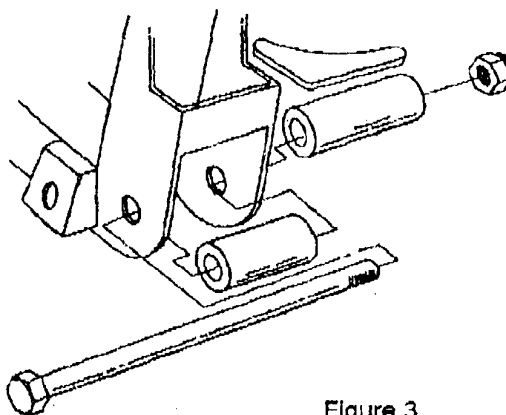

Figure 3
4. If you purchased a complete I.F.S. Package from [REDACTED] it was supplied with Full Lower A-Arms. Begin by installing the Spacers onto the crossmember. The holes where the lower control arms attach to the Crossmember must be enlarged to 5/8". Install the Crossmember Spacers and the Rear Spacers which were supplied with the Lower Control Arms onto the Crossmember as shown in Figure 3 using the supplied Inner Bushing Bolts, Nuts and a temporary spacer under the Nuts. DO NOT use the A-Arms for this operation as the welding heat will melt the rubber bushings. Tighten the Bolts and Nuts tight. Weld the Rear Spacers to the Crossmember all around. Weld the Crossmember Spacers as far as possible inside the crossmember on both ends. Position the Gussets horizontally, not vertically, against the Rear Spacers and the back of the Crossmember. Weld Gussets to Spacers and Crossmember. When it cools, remove the bolt.